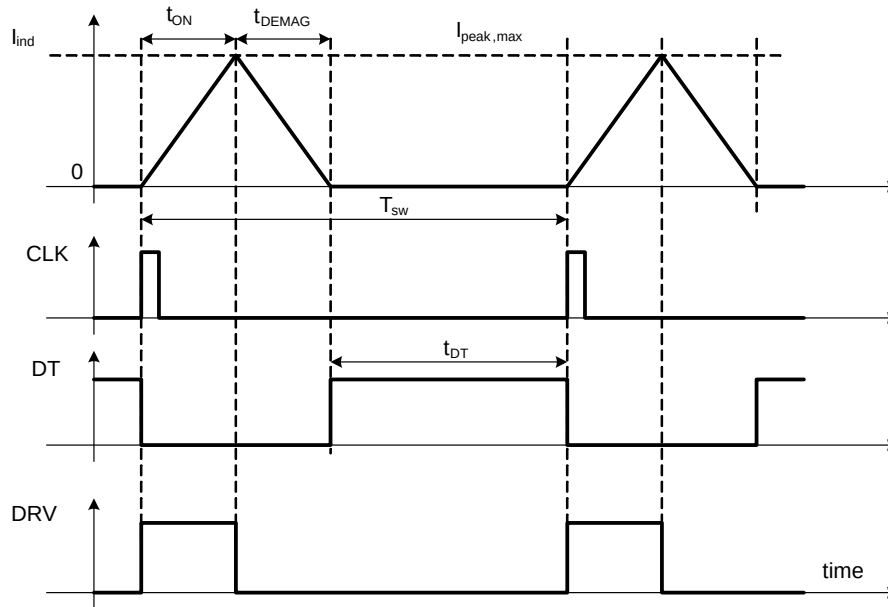

Figure 6. NCP1622 Clock, Dead Time and t_{ON} Waveforms
The **Frequency Foldback (FF)** system adjusts the on-time versus t_{DT} (see Figure 6) and the output power in order to ensure that the instantaneous mains current is in phase with the mains instantaneous voltage (creating a PF=1).